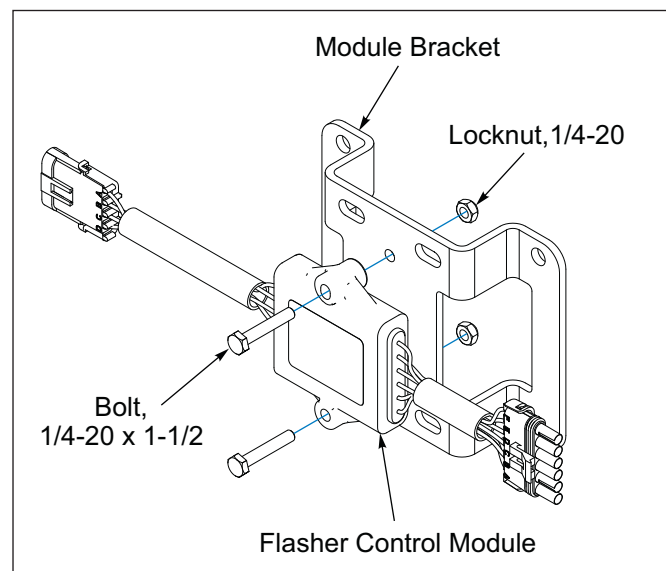

Figure 2-16: Flasher Control Module and Bracket
6. Attach the Flasher Control Module to the Module Bracket with 1/4-20 x 1-1/2 Bolts and Locknuts. **See Figure 2-16.**